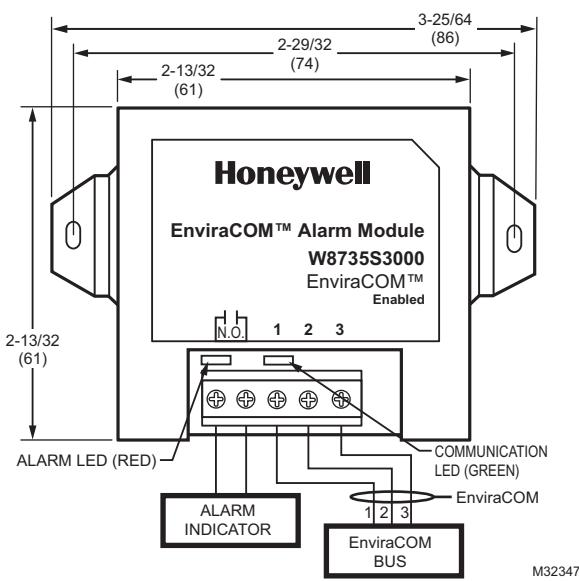

Fig. 1. W8735S3000 EnviraCOM Alarm Module wiring diagram.
2. Wire the 1, 2, and 3 terminals on the EnviraCOM Alarm Module to the 1, 2, and 3 terminals on the EnviraCOM™ enabled Oil Primary, Aquastat®, or any aforementioned EnviraCOM enabled controls, or anywhere on the EnviraCOM™ bus where access is available and convenient. See Fig. 1.
3. Connect the 2 wires from the alarming circuit (See Fig. 1) into the Normally Open (N.O.) terminals on the EnviraCOM Alarm Module.